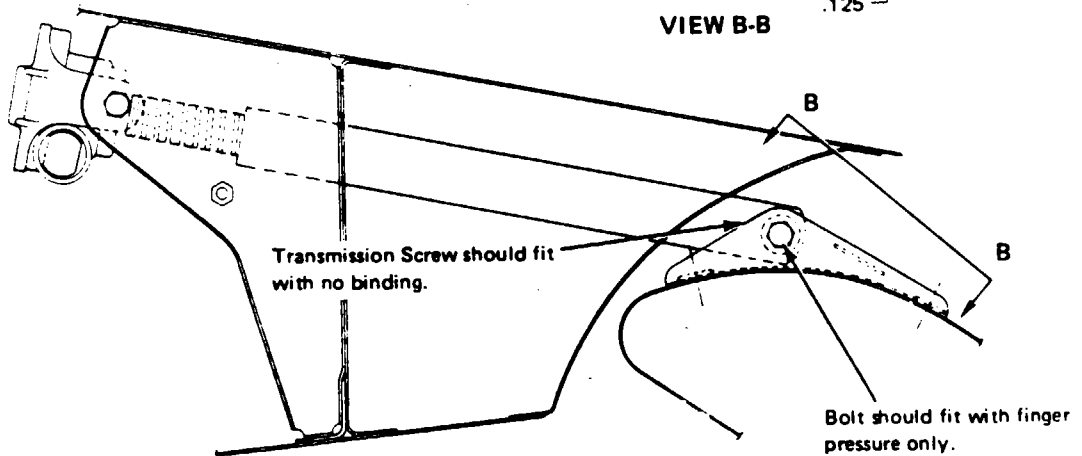

Figure 3-3. Friction Reduction in Wing Flap System
3-10. REDUCTION OF FRICTION IN WING FLAP SYSTEM (Dukes System Only). (Refer to Figure 3-3.)
c. Inspect the flap tracks for any burrs along the track edges. If any are found, remove them with a fine file. Insure that no noticeable depressions are evident at the ends of the track areas. (Refer to Figure 3-3 for specific locations.)
f. On each flap roller, remove $1/64$ or $.016$ of an inch from one side of each roller. (Refer to Figure 3-3, View A-A.)
h. Insure that the washers used on both sides of the rollers are flat. (Refer to Figure 3-3, View A-A.)
It may be necessary to move the horn assembly to obtain this no binding fit. The mounting holes on the horn assembly may be slotted to gain some adjustment if needed. (Refer to Figure 3-3, View B-B for dimensions of slots.)
- l. Ascertain that the transmission bolt at the flap end fits into the screw end horn assembly with finger pressure only. (Refer to Figure 3-3.)